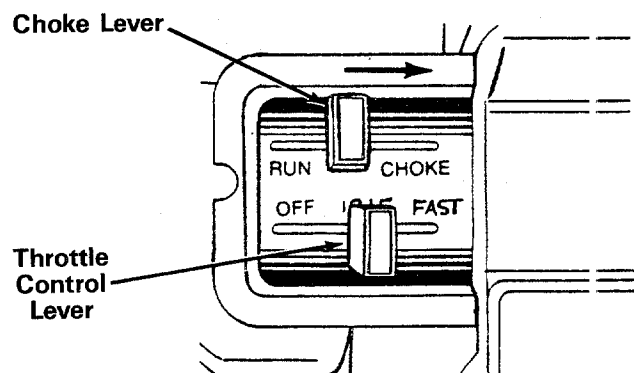

FIGURE 7. - Briggs and Stratton Engine
2. Place choke lever on engine in CHOKE position. See figure 7 or 7A.